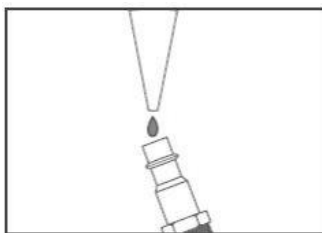

Figure 8. Lubricating stapler via air inlet.
-Place 2 to 6 drops of pneumatic tool oil in the stapler air inlet (as shown in Figure 8) every 2 hours of continuous use. Wipe off any excess oil near the stapler exhaust to avoid dust build-up.